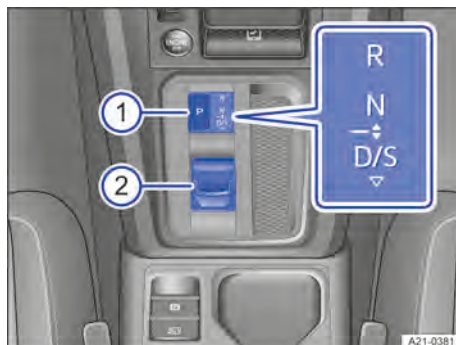

Fig. 104 Selector lever for the automatic gearbox with button for parking lock.
The selected position is shown on the instrument cluster display and on the lower part of the centre console when the ignition is switched on → Fig. 104.
To engage the parking lock, press the **P** button → Fig. 104 ①.
Move the selector lever → Fig. 104 ② to the rear to switch between positions **D** and **S**.